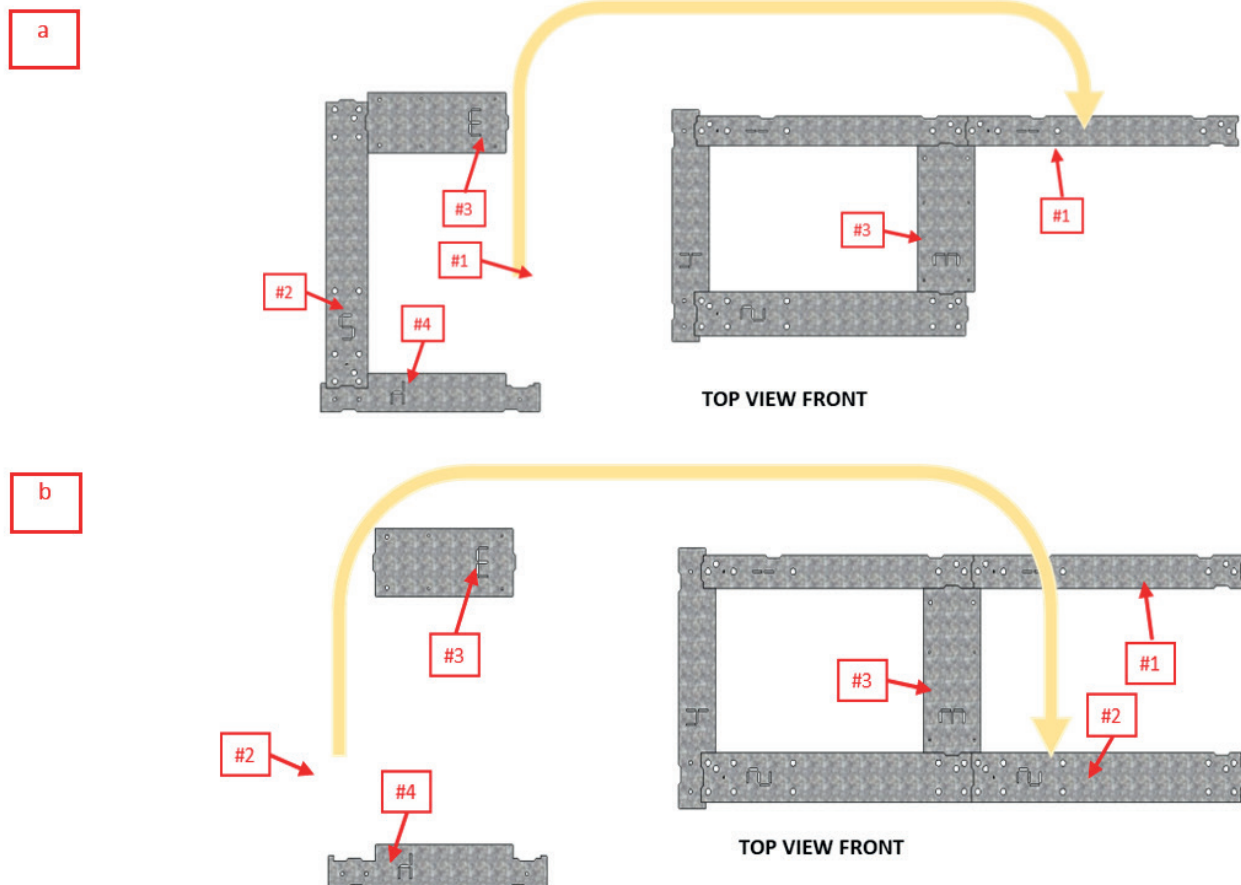

Figure 57. Locating the Next B-Cab XXL Template
- Move template #1 to the end of template #1 from the 1st B-Cab XXL locations. (refer to Figure 57 a).
- Move template #2 to the end of template #2 from the 1st B-Cab XXL locations. (refer to Figure 57 b).